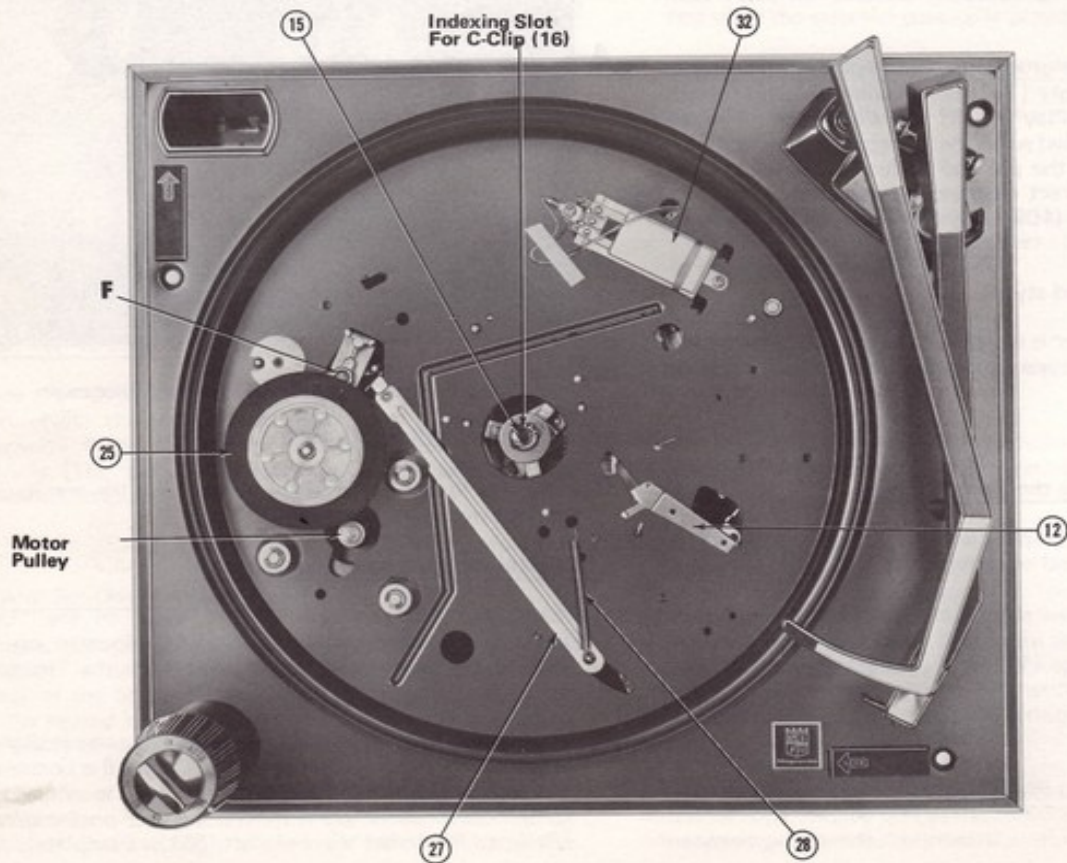

Figure 3 -- Top View of Baseplate with Turntable Removed
Remove the Turntable (Refer to Turntable Removal and Replacement). To vertically position the Idler Wheel rotate adjustment screw "F" (Figure 3) which is located atop the Idler Lift Bracket (57). Turn the screw counterclockwise (as viewed from above) to lower the Idler Wheel, and clockwise to raise it. The motor must be freely suspended beneath the baseplate (as in normal operation) when the adjustment is made.